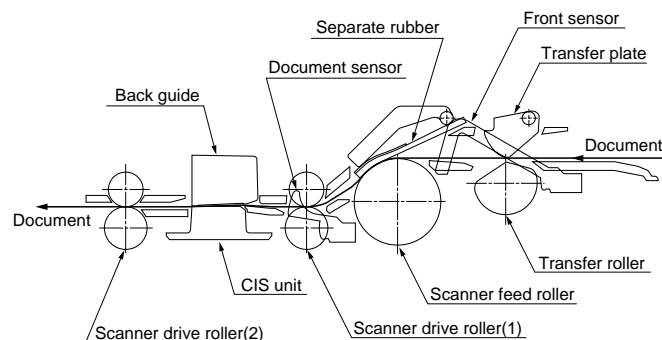

Fig. 1
- 1) As shown in Fig. 1, the document set in the hopper (the front sensor is on) is fed with the let out roller and paper feed roller which rotate together with the pulse motor.